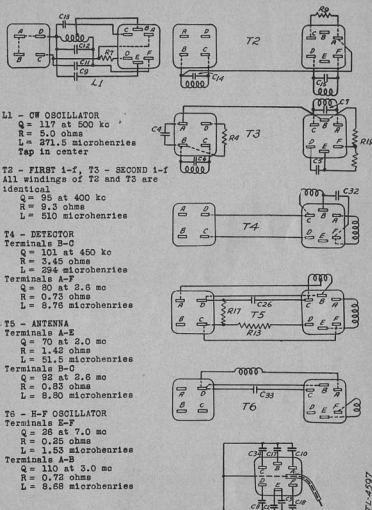

FIGURE 19.—I-f transformers and r-f and e-w coil assemblies—schematic diagrams.
- (2) To make a continuity check, proceed as follows:
- (a) Remove the battery plug and check the continuity of all circuits containing inductances. (See fig. 19.)